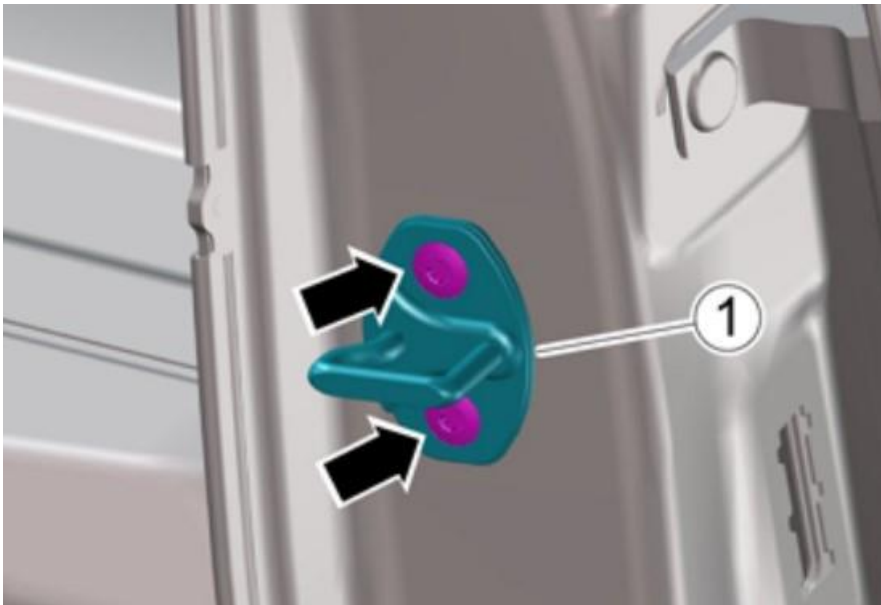

Figure 1
- Loosen but do not remove the fixings (Figure 1)